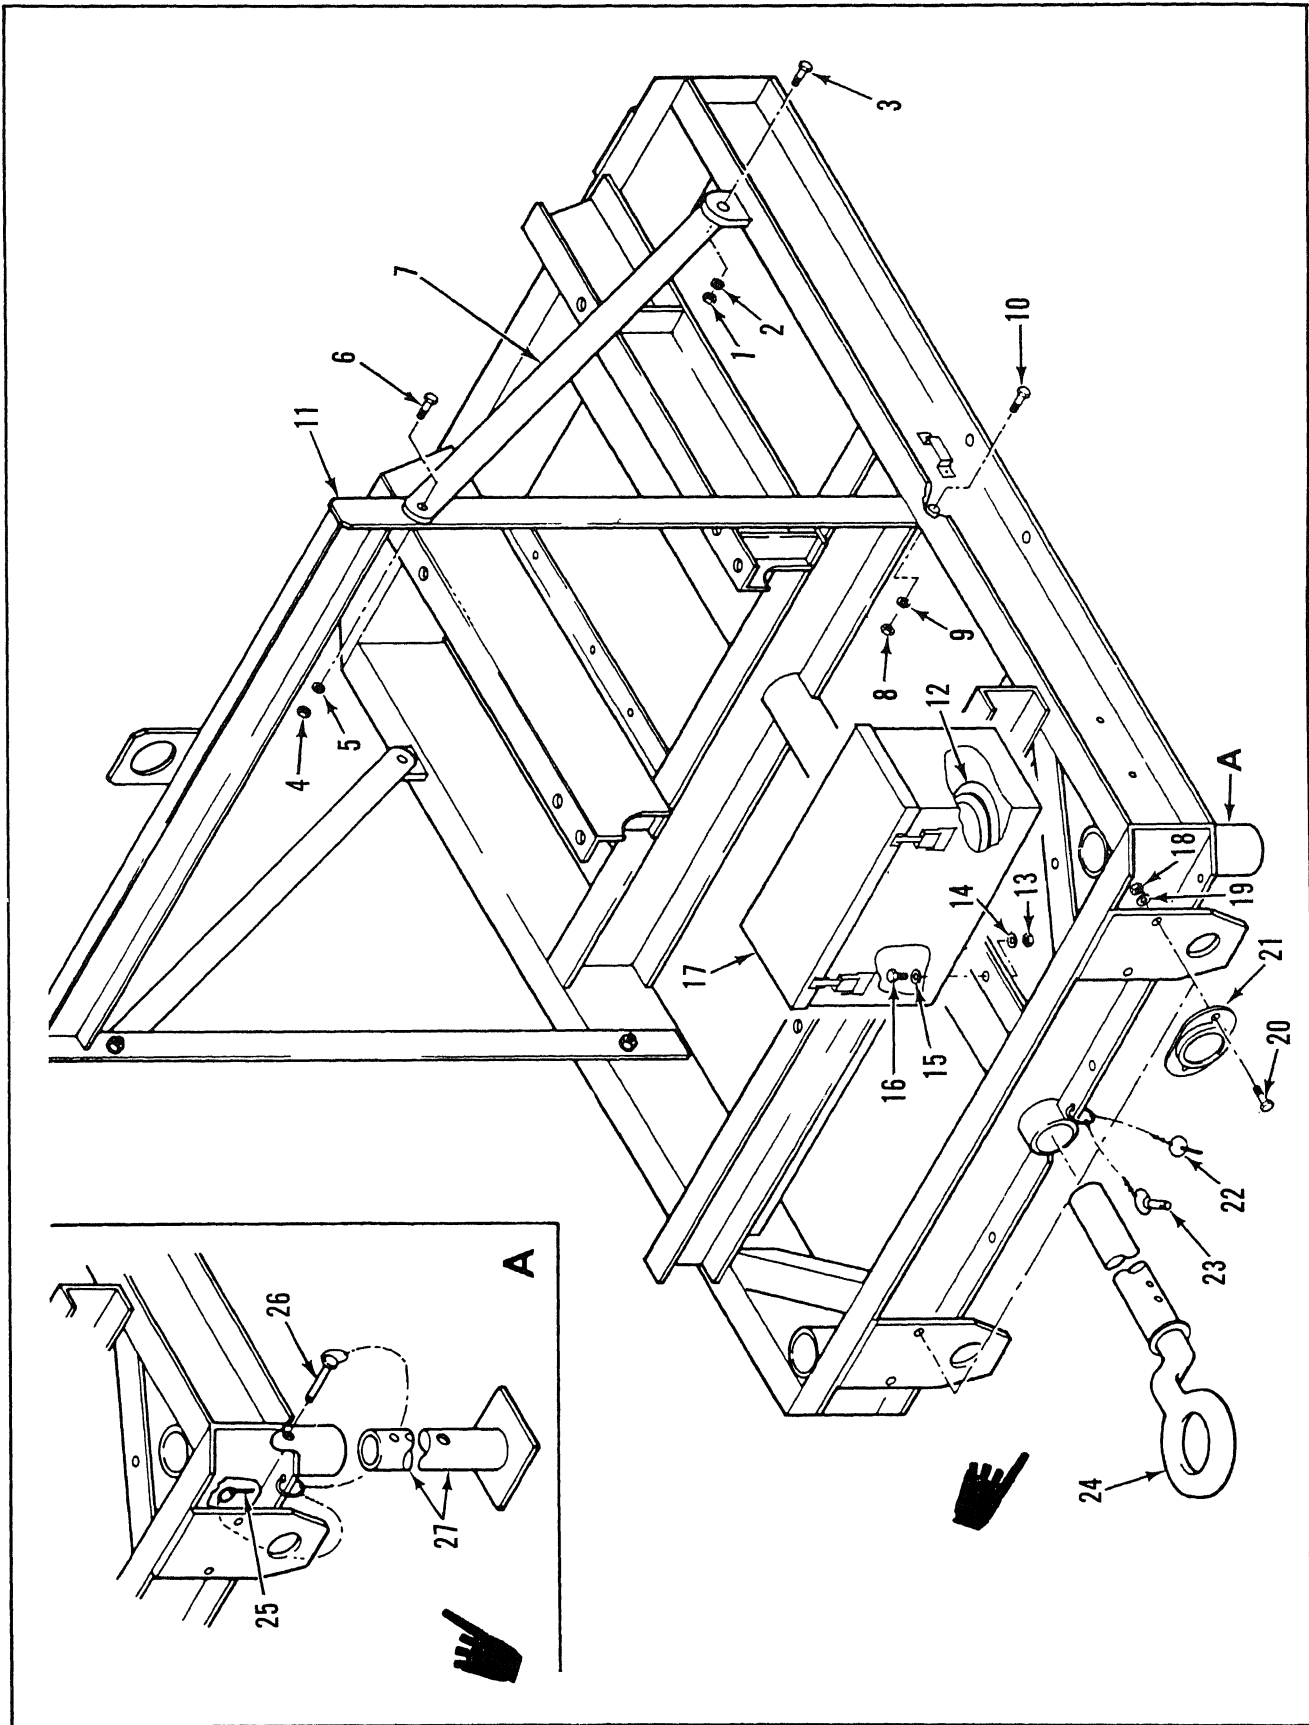

Figure 5-69. Frame Assembly. Assembly/Disassembly.
- (3) Refer to paragraph 4-50 and remove wheel and tire.
- (4) Remove nuts (1), washers (2, 3, and 4), beveled washers (6) and screws (5).
- (5) Axle assembly (7) is now free from frame. Carefully remove axle assembly from supports and move free of frame.
b. Disassembly (figure 5-69).
(1) Lift frame.
- (b) Remove nuts (1), washers (2) and bolts (3).
- (c) Remove nuts (4), washers (5) and bolts (6).
- (d) Remove braces (7).
- (e) Remove nuts (8), washers (9) and bolts (10).
- (f) Remove frame (11).
(2) Tool box.
- (a) Remove two ground cables (12) from tool box.
- (b) Remove nuts (13) washers (14) and (15), and bolts (16).
- (2) Replace ground cable clamps if defective.
- (3) Replace ground cable if wires are defective.
- (4) Repair cracks in tool box welds in accordance with Weldment Requirements for Plain Carbon Steel. Class 2, Type 4 instructions apply.
- (5) Replace tool box latch halves if defective by drilling out rivets and attaching with new rivets.
- (6) Replace reflector if defective.
- (7) Reweld cracks in support leg pad and towbar in accordance with Weldment Requirements for Plain Carbon Steel. Class 1, Type 4 instructions apply.
- (8) Replace anchor pin and retaining pin chains if defective.
- (9) Replace pins if defective.
- (10) Straighten all bent, twisted or dented frame members using conventional repair methods.
- (11) Reweld cracks in frame in accordance with Weldment Requirements for Plain Carbon Steel. Class 1, Type 4 instructions apply.
- f. Assembly (figure 5-69).
- (1) Lift frame.
- (a) Position lift frame (11) and secure with bolts (10), washers (9) and nuts (8).
- (b) Attach braces (7) to lift frame with bolts (6), washers (5) and nuts (4).
- (c) Attach braces to frame with bolts (3), washers (2) and nuts (1).
- (2) Tool box.
- (a) Align tool box mount holes and secure box (17) with bolts (16), washers (15) and (14), and nuts (13).